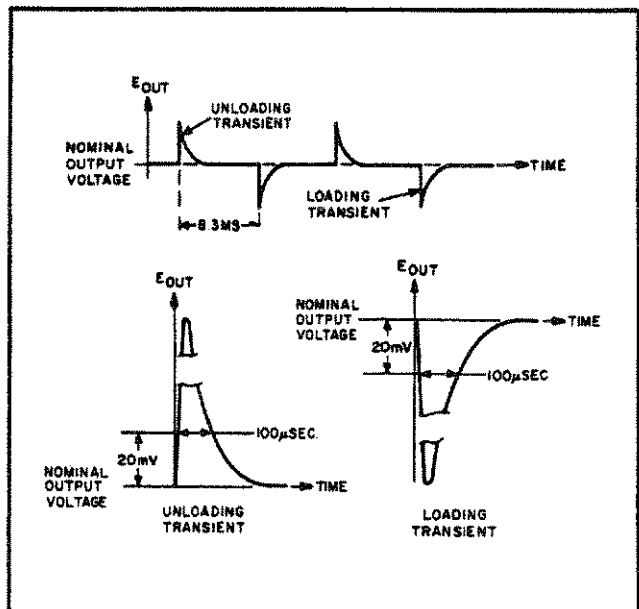

Figure 5-5. Transient Recovery Time, Waveforms
- k. Starting from the major graticule division representative of time zero, count to the right 100 μ sec and vertically 20mV. Recovery should be within these tolerances as illustrated in Figure 5-5.